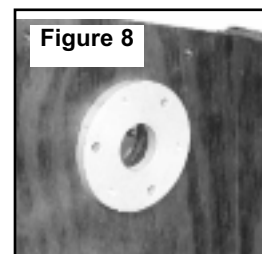

Figure 8
STEP 1: Determine location of bezel hole in console by placing bezel on outside of console where desired and mark the 1-1/4" hole and the 1/4" clearance holes, (see figure 8) (NOTE: Clearance for control head needs to be determined on inside of console before cutting holes; Make sure to use the correct control head mechanism PORT or STBD when planning the hole locator. Notice location of friction control adjustment screws in respect to console placement!).